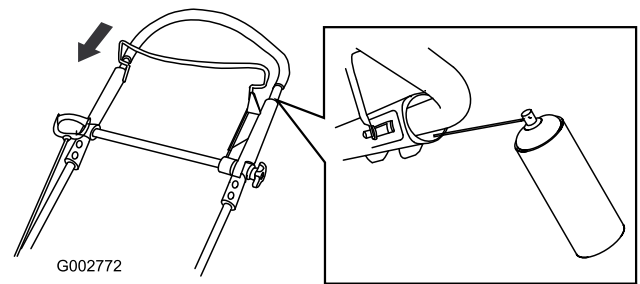

Figure 43
2. Push the upper handle fully down and spray the inner plastic surface of the outer handle (Figure 43).